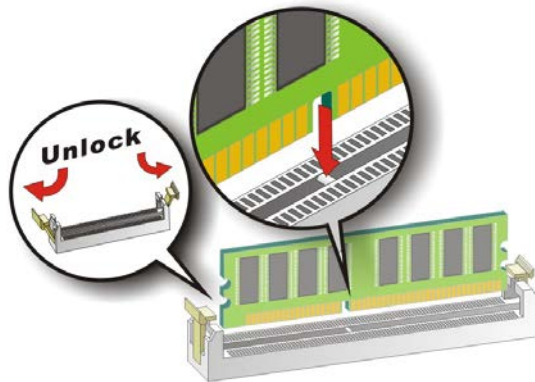

Figure 4-6: DIMM Installation
To install a DIMM, please follow the steps below and refer to **Figure 4-6**.
Step 1: Open the DIMM socket handles. Open the two handles outwards as far as they can. See **Figure 4-6**.
Step 2: Align the DIMM with the socket. Align the DIMM so the notch on the memory lines up with the notch on the memory socket. See **Figure 4-6**.
Clip the two handles into place. See **Figure 4-6**.